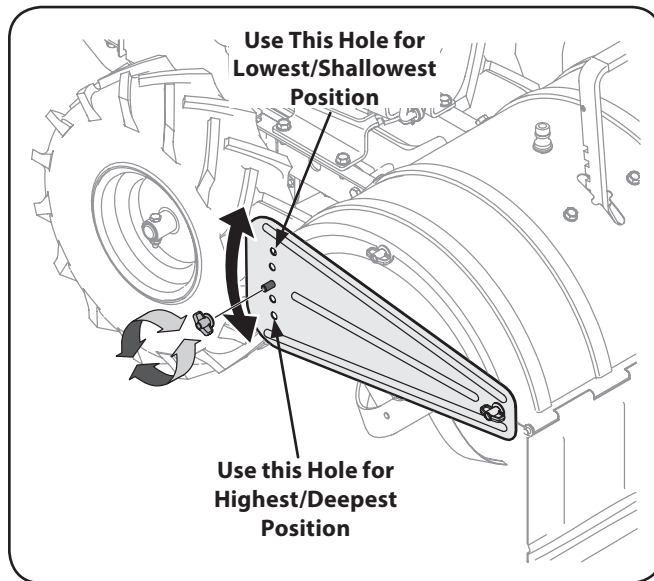

Figure 5-3
4. When breaking up sod and for shallow cultivation, use the second slot from the top. Place the side shields in their lowest position. See Figure 5-3.